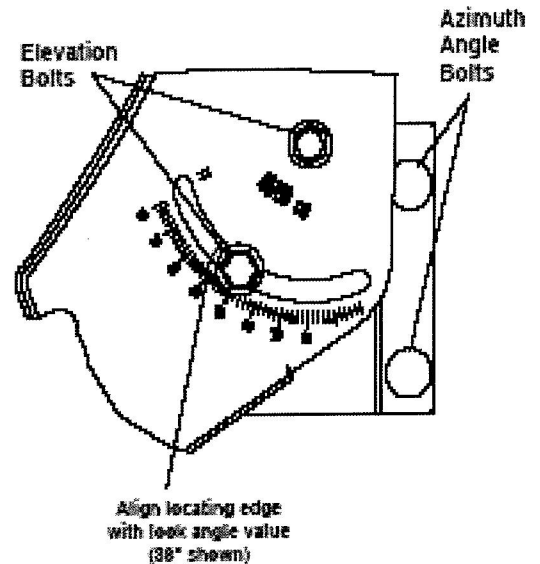

FIGURE 6
STEP 8. Set elevation on antenna; align colored edge of clamp with degree marking. See Figure 6.
(*Note: When reading the elevation degree angle on the dish mount be sure to use the **“red locating edge”** as shown in *Figure 6* to read the correct degree. **Not the elevation bolt!**)